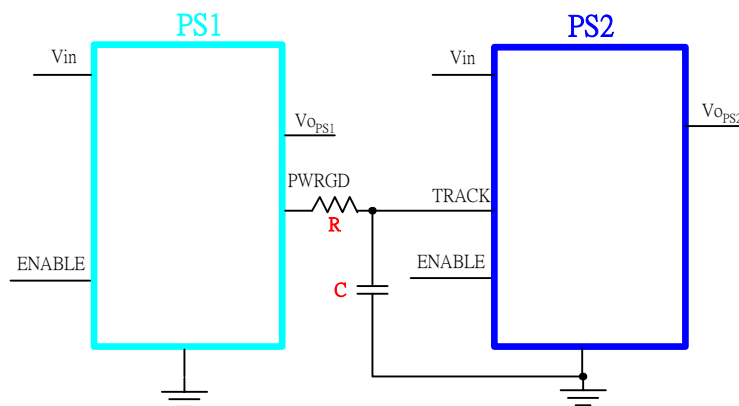
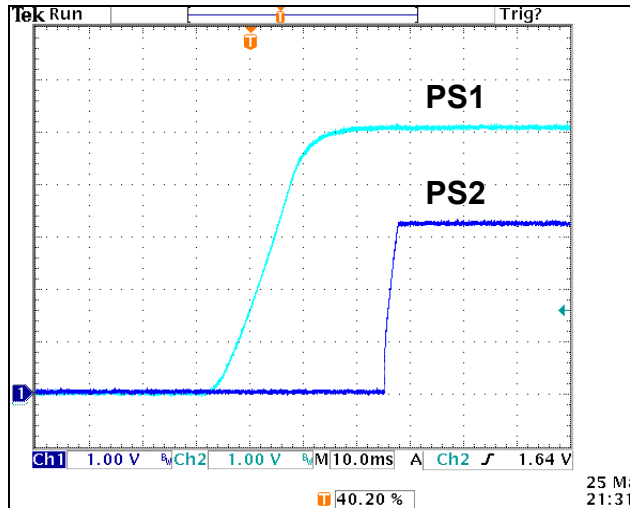
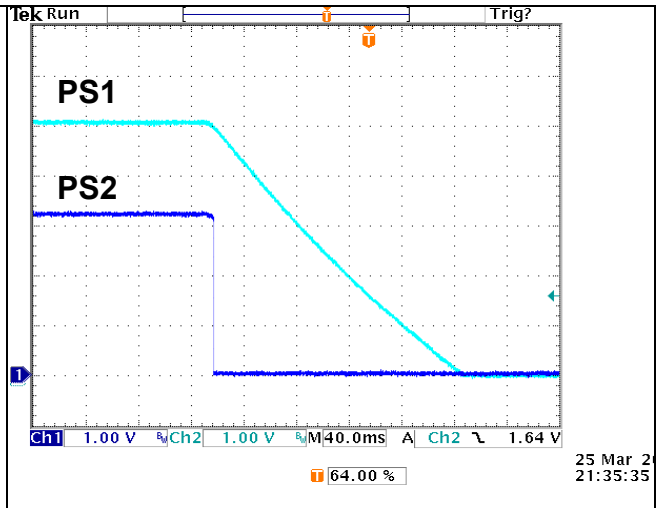

Figure 3. PS1 and PS2 track output voltage Sequential start-up
Figure 4: Sequential Power up
Figure 5: Sequential Power down
Sequential start-up is implemented by connecting the power good signal (PWRGD pin) of PS1 to the TRACK pin of PS2 with a resistor–capacitor (RC) circuit. The waveforms of power up and down are in Figures 4 and 5. In Figure 4, the 5V PS1 supply ramps up first. When supply reaches its final 5V steady state value, the open collector output of the PWRGD pin releases to the TRACK pin and the PS2 output voltage rises at the rate of the RC time constant. In Figure 5, the PWRGD pin pull low by PS1 ENABLE off or the PS1 output voltage is below 90% of the desired regulated voltage, and then the TRACK pin is pulled low and the PS2 power down. Figure 3 shows the circuit diagram of sequential start-up when $V_{O_{PS2}}$ tracks the PWRGD of PS1.